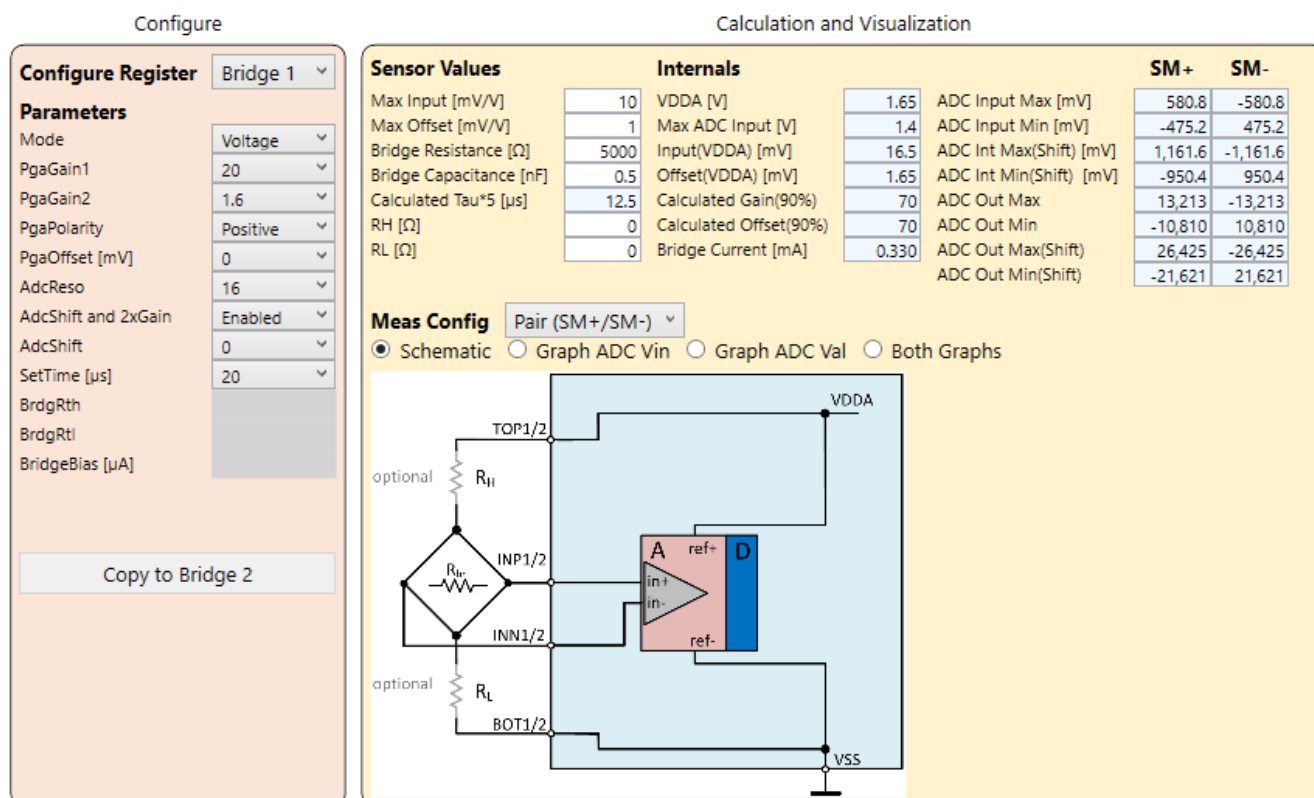

Figure 64. Voltage Mode
- Voltage: internal voltage supply (VDDA, refer to the *ZSSC3281 Datasheet* document), see Figure 64.